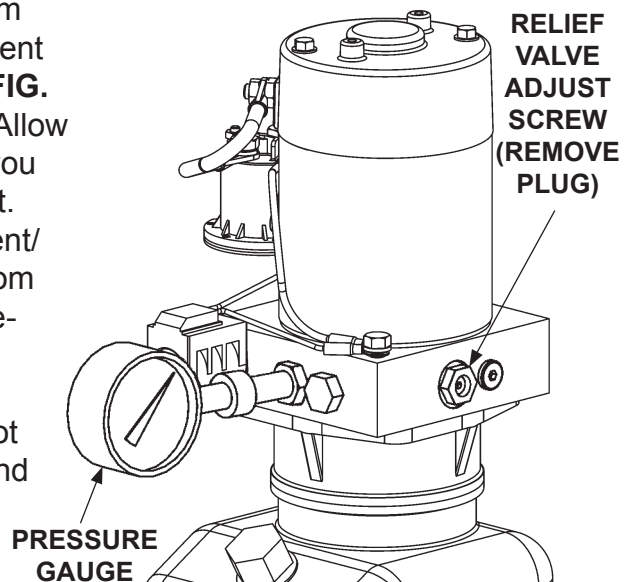

FIG. 36-2
3. With platform on the ground, remove the pressure hose and fitting from the pump and replace it with a 0-4000 PSI pressure gauge. Hold the switch in the "UP" position. Adjust the relief valve on the side of the pump until the gauge shows 3250 PSI (FIG. 36-2). Remove gauge and reinstall pressure hose.